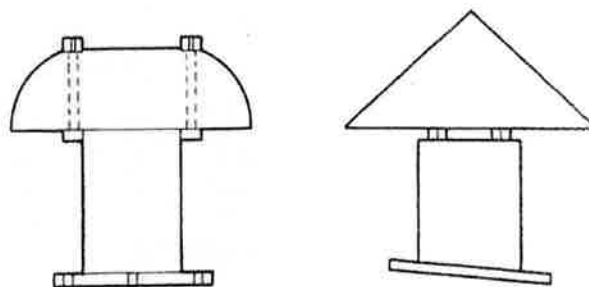

Figure 4—Mushroom-Shaped and Cone-Shaped Vents.
2. Use mushroom or cone-shaped vents (Figure 4) to minimize deposit build-up and vent plugging.